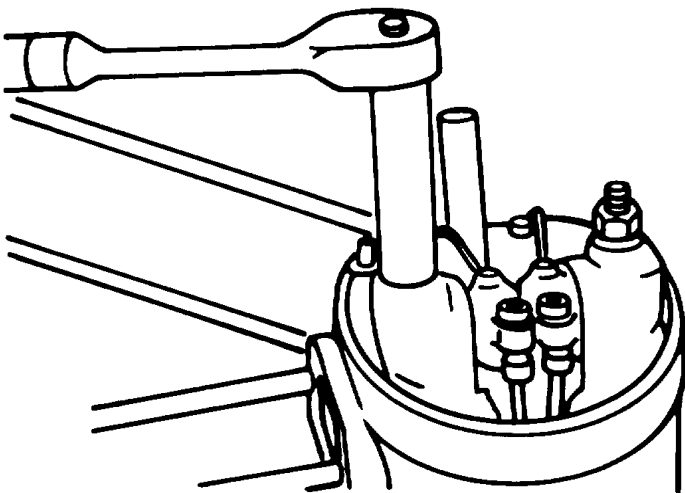

Figure A-10. Two Injector Side Nuts
- (2) Beginning with the two injector side nuts, loosen the 4 cylinder head nuts with a 13mm deep well socket. (Figure A-10.)